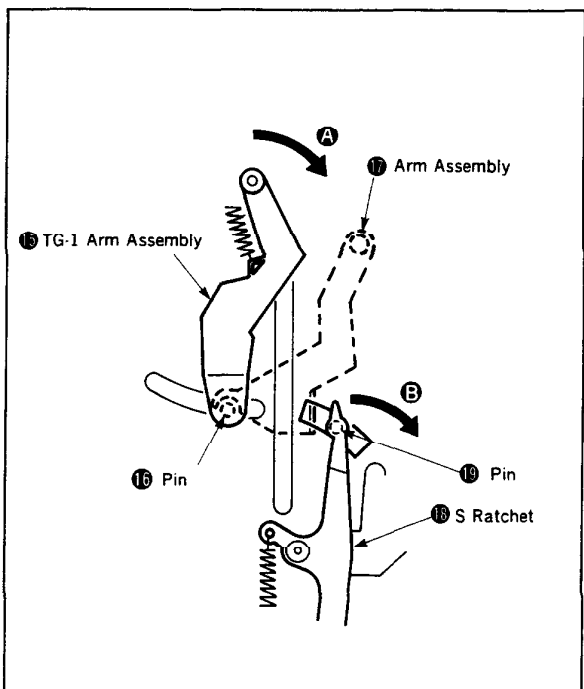

Fig. 17
- 4) Move the TG-1 arm assembly ⑤ in a direction of the arrow **A** to put the pin ⑥ into the concave of the arm assembly ⑦. (Fig. 17)
- 5) put the pin ⑧ of the S ratchet ⑨ into the right side the of the arm assembly ⑦. (Fig. 17)